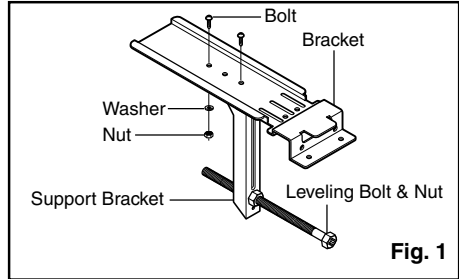

Fig. 1
1. Loosely attach the Support Bracket to the bottom of Bracket using Bolts, Washer, and Nuts. Attach the Leveling Bolt and Nut. (Fig. 1)